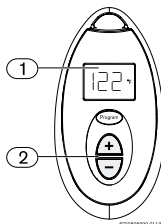

Fig. 6 Temperature adjustment
- ▶ Press the buttons  or  on the remote control (Fig. 6, pos. 2) until the required temperature appears on the remote control display (Fig. 6, pos. 1).